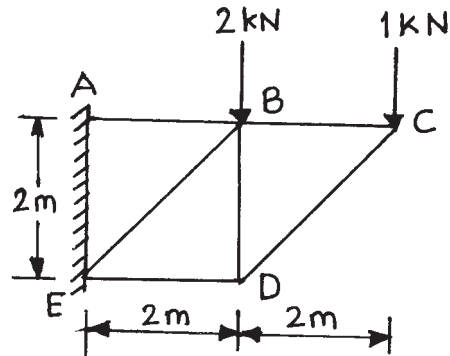

Fig. No. 12
- b) Calculate magnitude and state the nature of forces in the members AB, BC, CD, DE, BD, and BE of a truss as shown in Fig. No. 12. Use method of section.